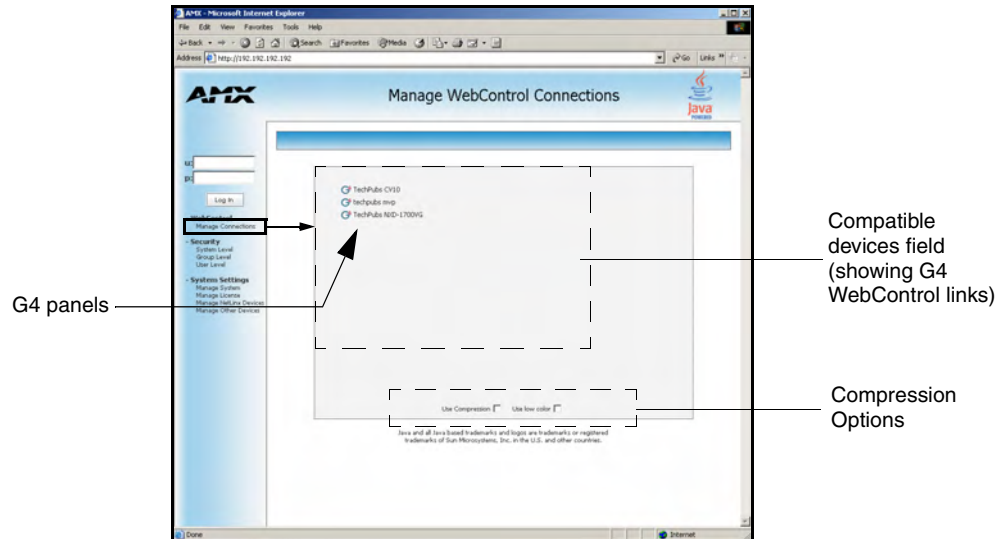

FIG. 81 Manage WebControl Connections page (populated with compatible panels)
6. This Manage WebControls connection page (FIG. 81) is accessed by clicking on the **Manage connections** link (*within the Web Control section within the Navigation frame*). Once activated, this page displays links to G4 panels running the latest G4 Web Control feature.